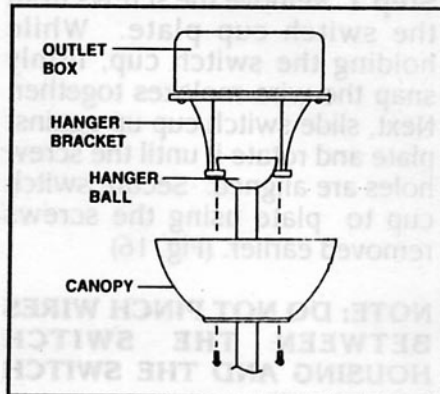

FIG. 13
Step 2. Slide canopy up to ceiling. Rotate canopy so that the screw holes are aligned and secure with the two screws provided on hanger bracket. (Fig. 13)